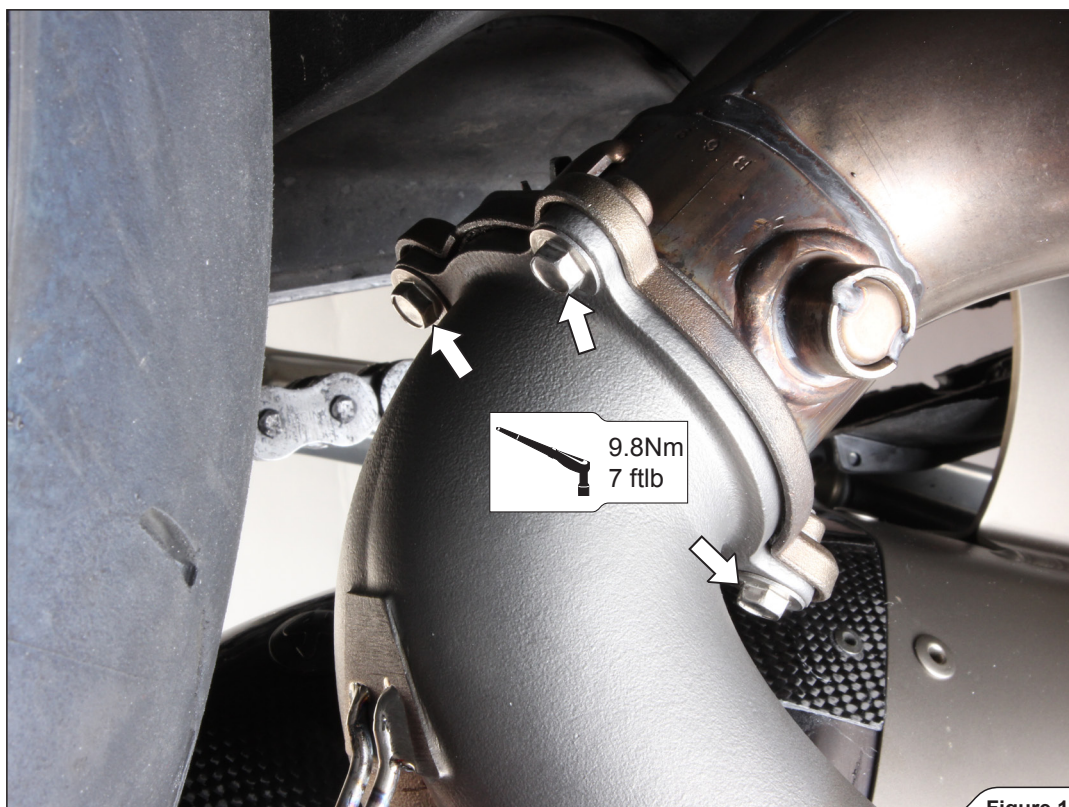

Figure 10
4. Tighten the collector's bolts to the specified torque (**Figure 10**).